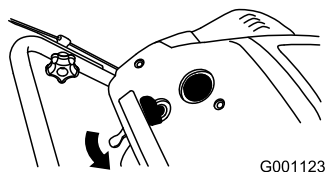

Figure 12
- Move the choke lever to the right (Figure 12).